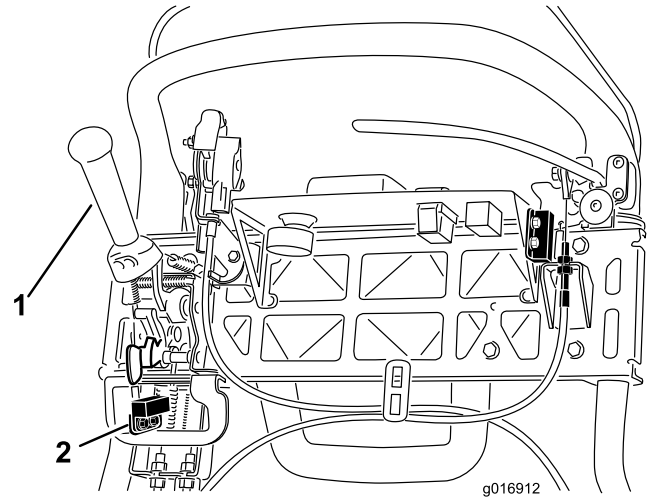

Figure 38
4. Loosen the interlock switch mounting fasteners (Figure 38).
5. Place a .062 inch (1.6 mm) thick shim between the traction lever and the interlock switch (Figure 38).